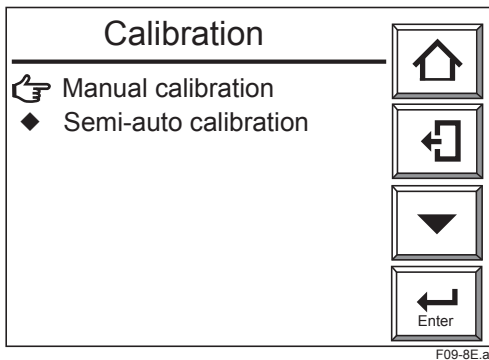

Figure 9.8 Calibration Display
- (1) Press the [Setup] key in the Basic panel display to display the Execution/Setup display. Then select the "Calibration" in the Execution/Setup display. The Calibration display shown in Figure 9.8 appears.